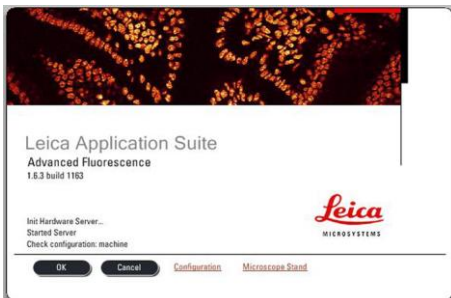

Fig. 2A
1.6. Start the LAS AF software by double clicking the icon on the desktop. The following window will appear (see Fig. 2A). Choose 'ok' without going into the configuration or microscope stand setup.